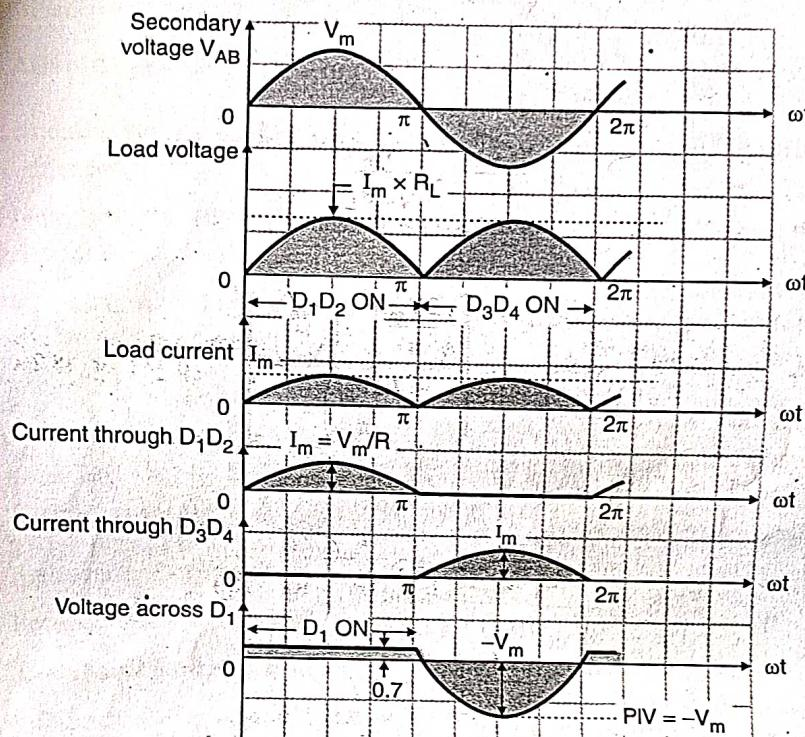

Fig. 11.5.3 : Waveforms for the bridge rectifier
- The load current and load voltage both are positive as shown in the waveforms in Fig. 11.5.3.
- The waveforms of the bridge circuit are as shown in Fig. 11.5.3.
As shown in waveforms of Fig. 11.5.3, two cycles of output appear for each cycle of input. Hence, the ripple frequency is twice the input frequency. So ripple frequency is 100 Hz.